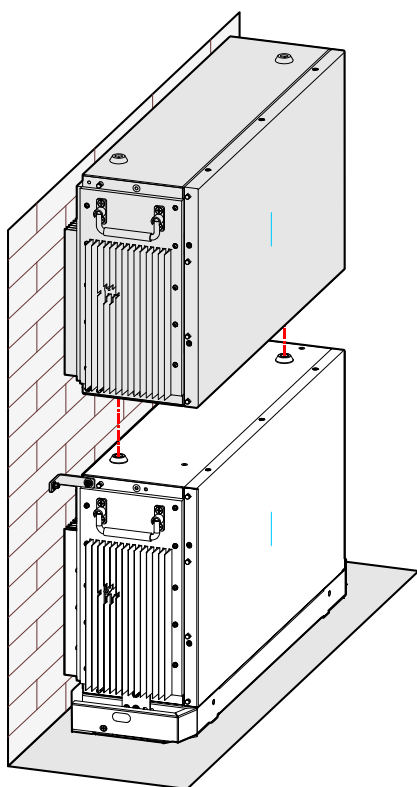

Figure3-19 Place the battery pack
3. Place the battery against the wall, the bottom limit holes of the upper battery pack should match the screw on the top of the below battery pack, as shown in Figure3-19.